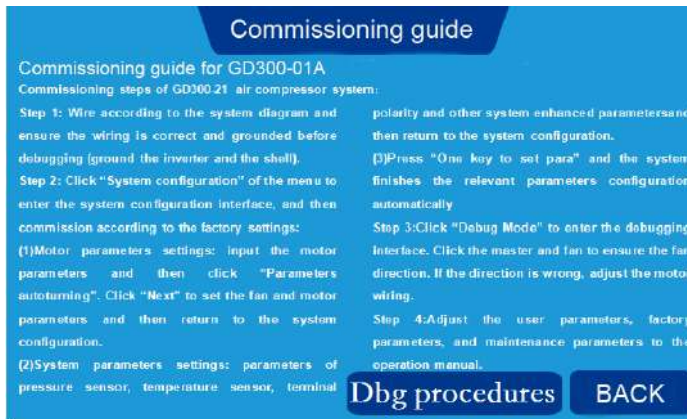

Figure 4-6 Commissioning guide page
Step 1: Click **Dbg guide lines** on the system configuration interface. The page shown in Figure 4-6 is displayed.